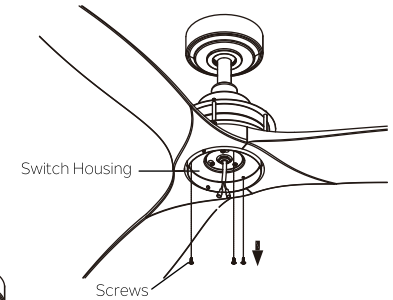

Fig. 25
**Step 5.** Remove the three screws pre-installed on the outer edge side of the switch housing and save for later use. (Fig.25)